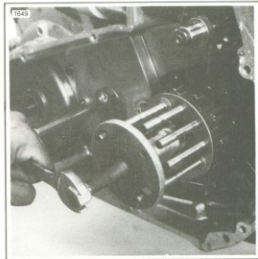

Figure 6-27. Removing Clutch Hub
7. See Figure 6-27. Remove the clutch hub using CLUTCH HUB PULLER, Part No. HD-95960-41A.